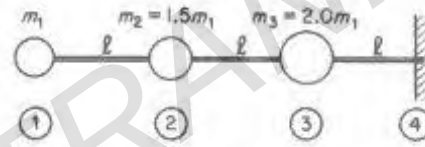

Figure 8b
1. A uniform massless cantilever beam of total length 1.5m and $EI = 0.1 \times 10^6 \text{ Nm}^2$ carries three lumped masses at points along its length as shown in the figure 8b. The smallest mass $m_1 = 100 \text{ kg}$.